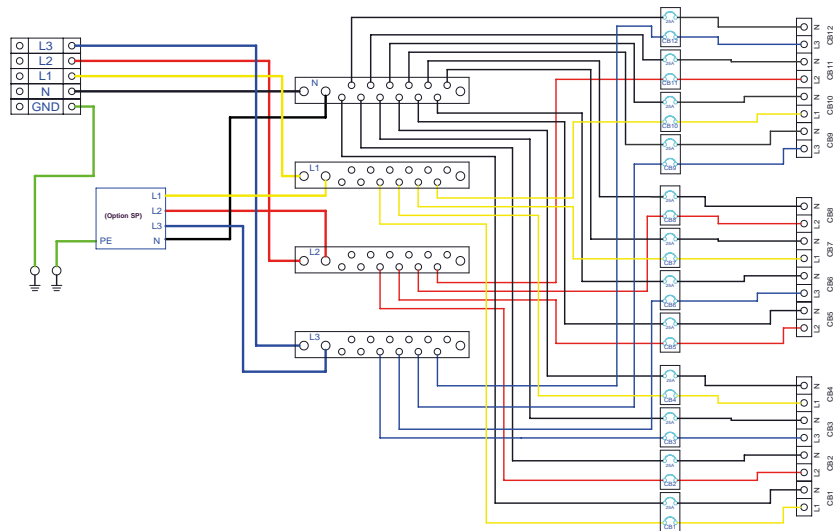
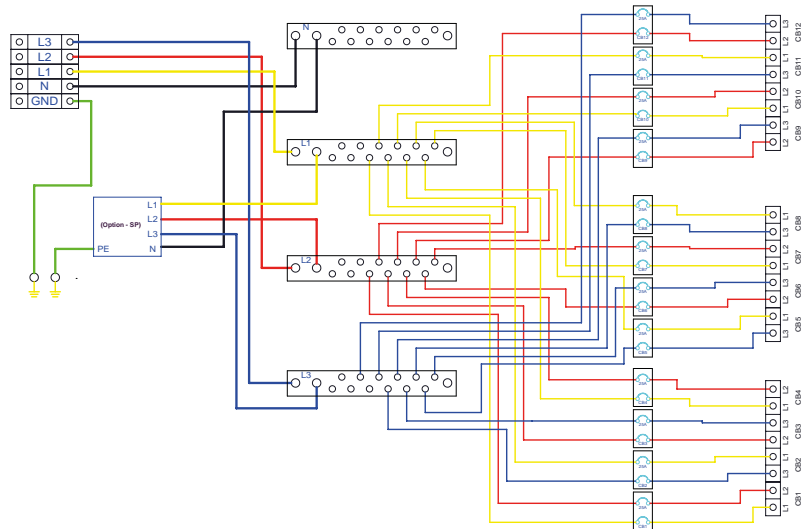

Figure 2a. Block Diagram - 4-wire 3-phase to single phase L-N
Figure 2b. Block Diagram - 3-wire 3-phase to two phase L-L (208V)
6.1 Power Distribution Circuits. Simplified schematic diagrams of the distribution panels is shown in Figure 2. The inputs from each phase and Neutral connect to a internal copper bus bars from which the circuit breakers distribute power to the loads, either one phase and neutral for each circuit (figure 2a) or two phases for each circuit (figure 2b) where neutral is not distributed. This latter provides a 208VAC output.